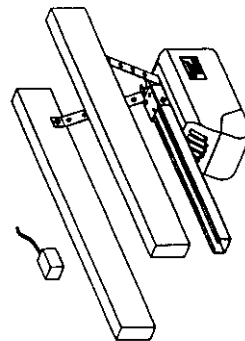

Figure 1-2
* DISCONNECT the existing external radio receiver from the garage door opener. (Figure 1-2)